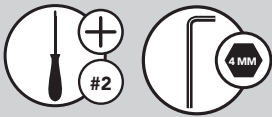

FIGURE 4A
Screw the sliding pin into the frame using the provided M5x14 screws so the pin is on the hinge side of the pantry frame (See Fig 4A). Insert the frame into the pantry, ensuring the sliding pin attaches to the lateral slide and the (4) holes at the bottom of the frame line up with the (4) holes on the bottom slide. Attach the frame to the bottom slide with the provided (4) M6x40 screws (See Fig 4B).